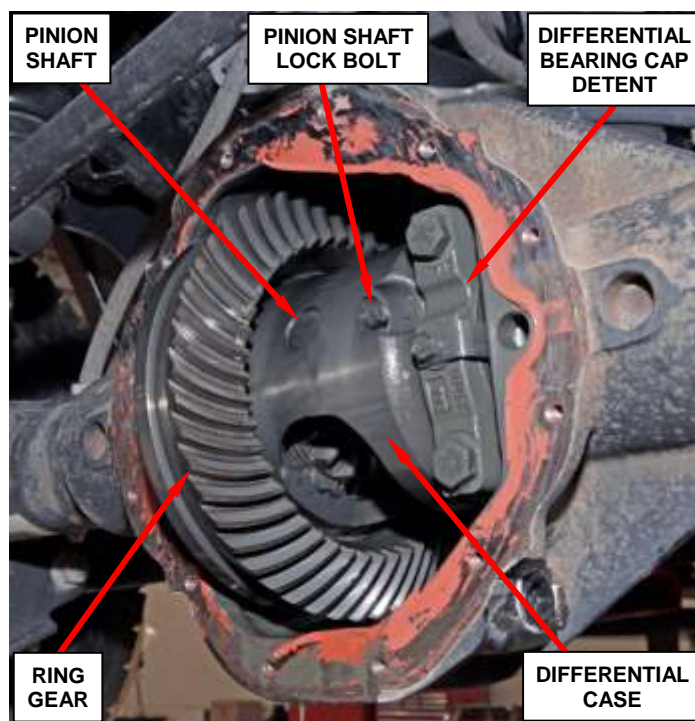

Figure 6 – Pinion Shaft Retaining Bolt
11. Rotate the differential case so the pinion shaft lock bolt is aligned with the differential bearing cap detent (Figure 6).
13. Remove and **discard** the original pinion shaft lock bolt (Figure 6).